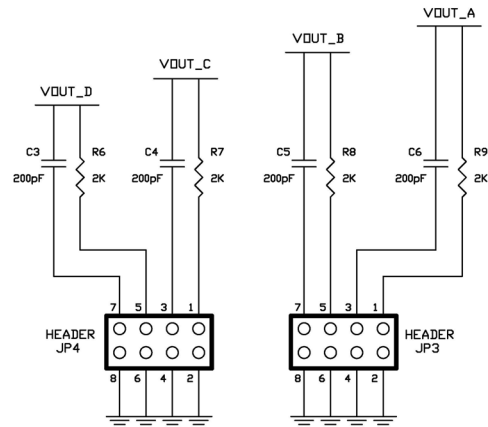

Figure 5: JP3 & JP4 Load Select Headers
6. Select the desired output load by adding jumpers to headers JP3 & JP4. See *Figure 5* and *Table 1* in Section 4.0 for jumper configurations.